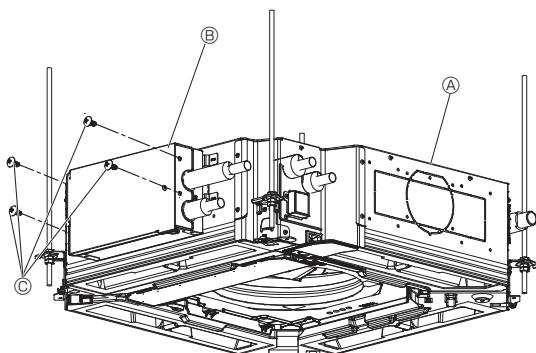

Fig. 4-9
4.5.2. Optional VALVE KIT attachment (Fig. 4-9)